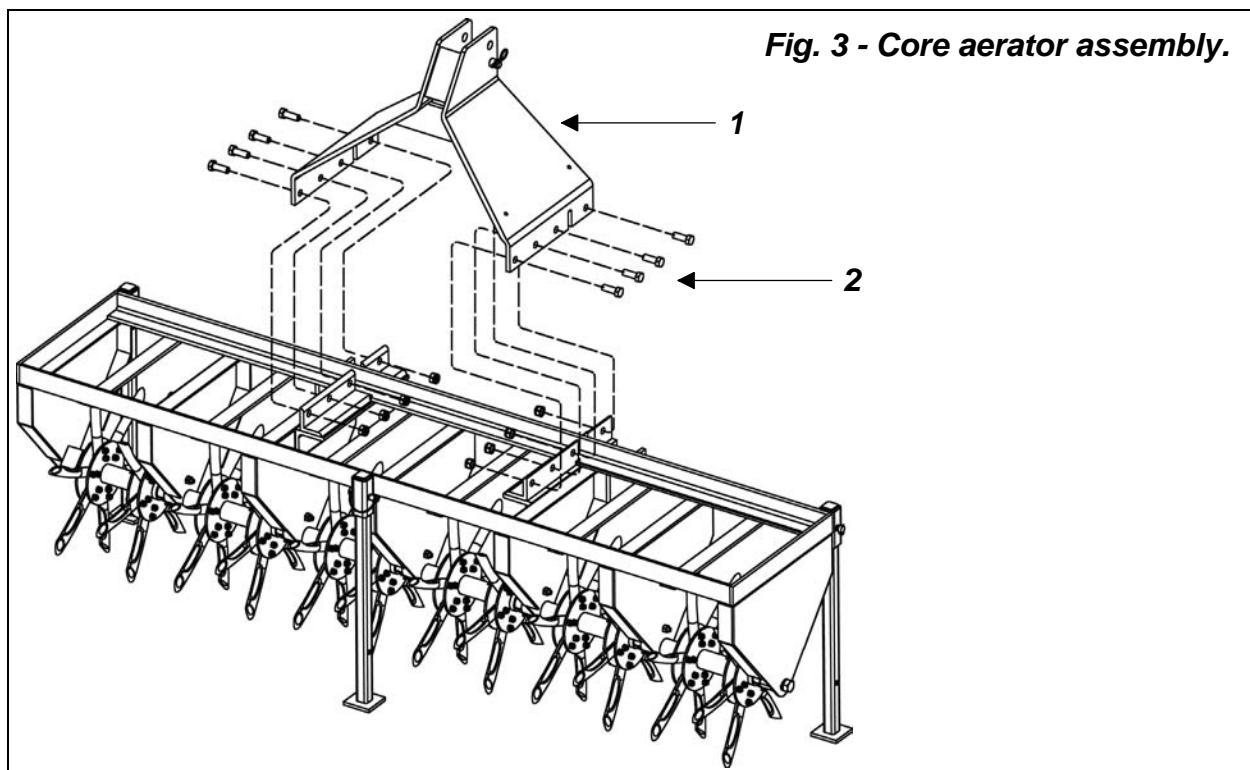

Fig. 3 - Core aerator assembly.
To assemble the core aerator proceed as follows (**see fig. 3**):
2. Remove "A" frame (see #1, fig. 3) from crate. It is wired to the machine for transporting purposes.
5. Mount the "A" frame onto the mainframe and secure it with the bolts and nuts that were removed during step 4 (see #2, fig. 3).